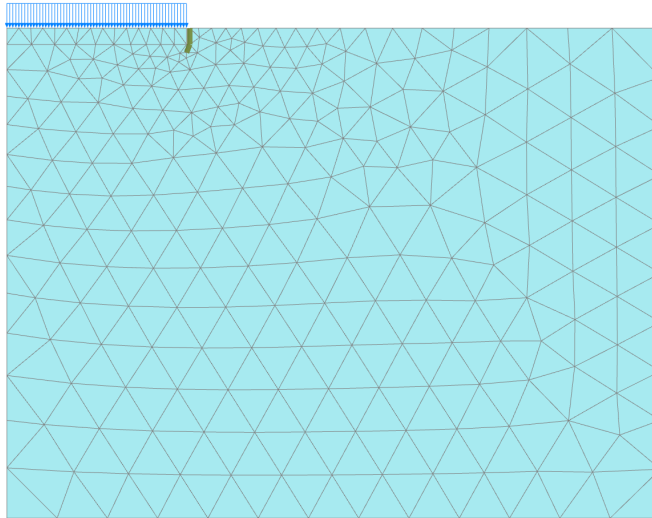

Figure 8.14 The generated mesh
-  View the generated mesh. The resulting mesh is shown in Figure 8.14.